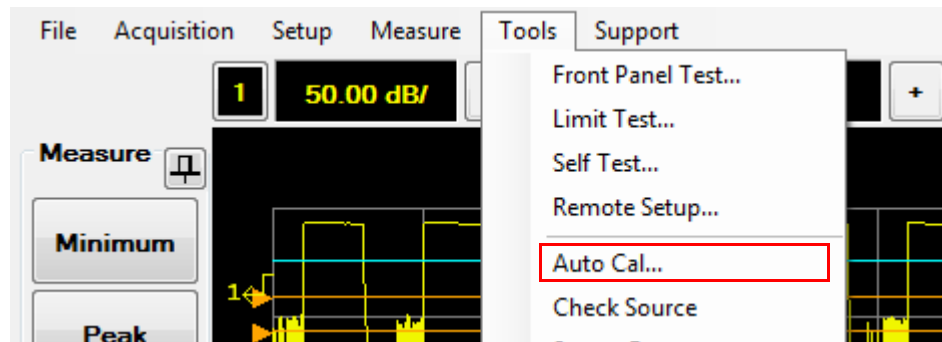

Figure 2-132 Auto Cal... selection in the Tools menu
- 1 Select **Tools > Auto Cal...** on the toolbar as shown in Figure 2-132.